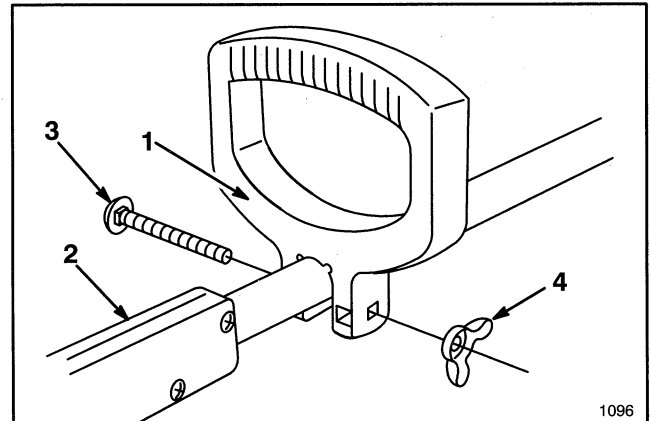

Figure 4
2. Secure handle to tube with (2) two machine screws and (2) two nuts.
3. Press support handle onto tube with smooth side of support handle facing toward upper handle. Loosely secure support handle to tube with carriage bolt and wing nut (Fig. 4).